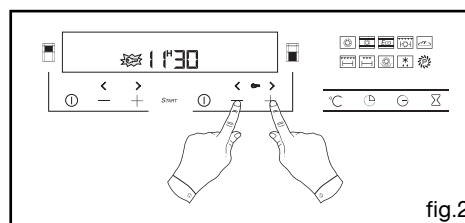

fig.2
-> access to the oven controls is now locked (fig.2).